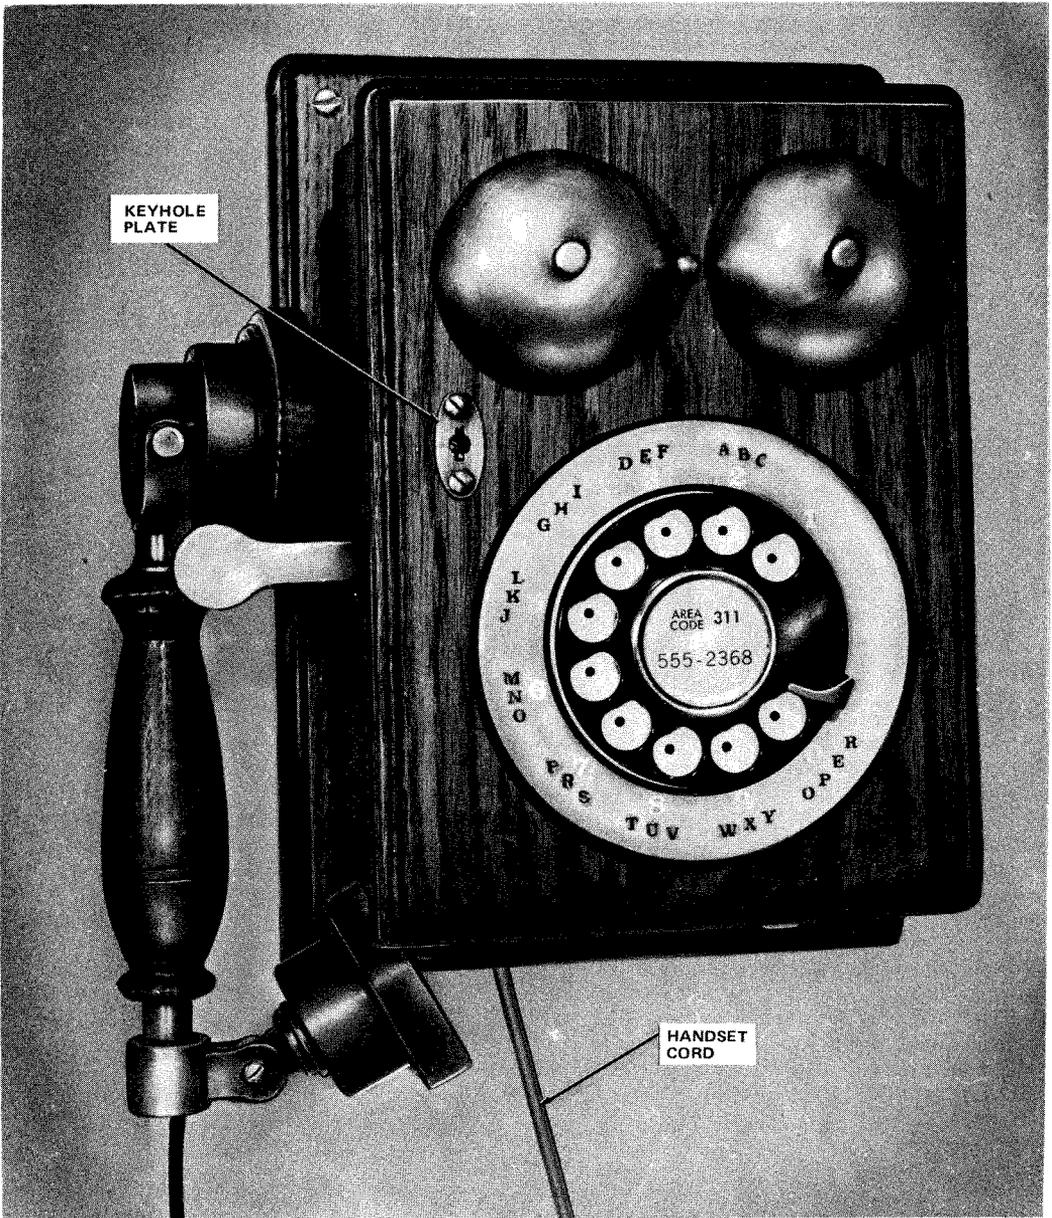

Fig. 1—951A1-03 DESIGN LINE Telephone Set
1.01 This section contains information on the 951A1-03 DESIGN LINE* telephone set (*Country Junction**). This set is a simulated antique wall telephone set (Fig. 1).
2.06 The handset assembly is a special antique design (Fig. 1).
- 3.03** To gain access to the interior of the set for wiring changes, insert a small standard blade screwdriver into the key-hole plate on the front of the telephone set (Fig. 1) and turn the